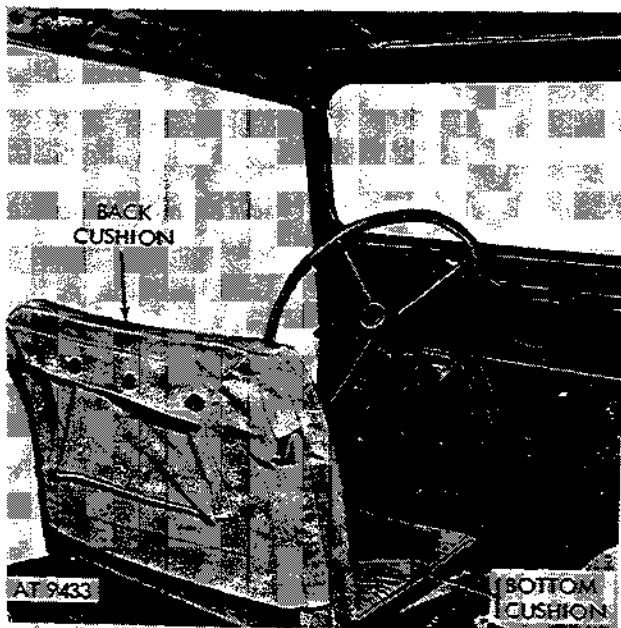
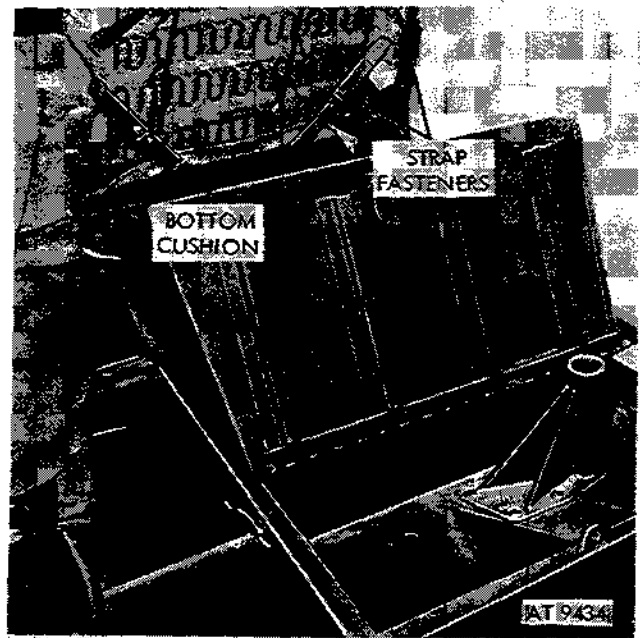

Figure 2-402. Front seat back.
Figure 2-403. Front seat cushion straps and fasteners.
a. Front Seat Cushions. To remove the back cushion from the front seat frame, grasp cushion at top and pull upward until free of frame (fig. 2-402). To remove seat bottom cushion, tip the seat forward and from the underside unfasten the strap fasteners and remove the cushion (fig. 2-403).